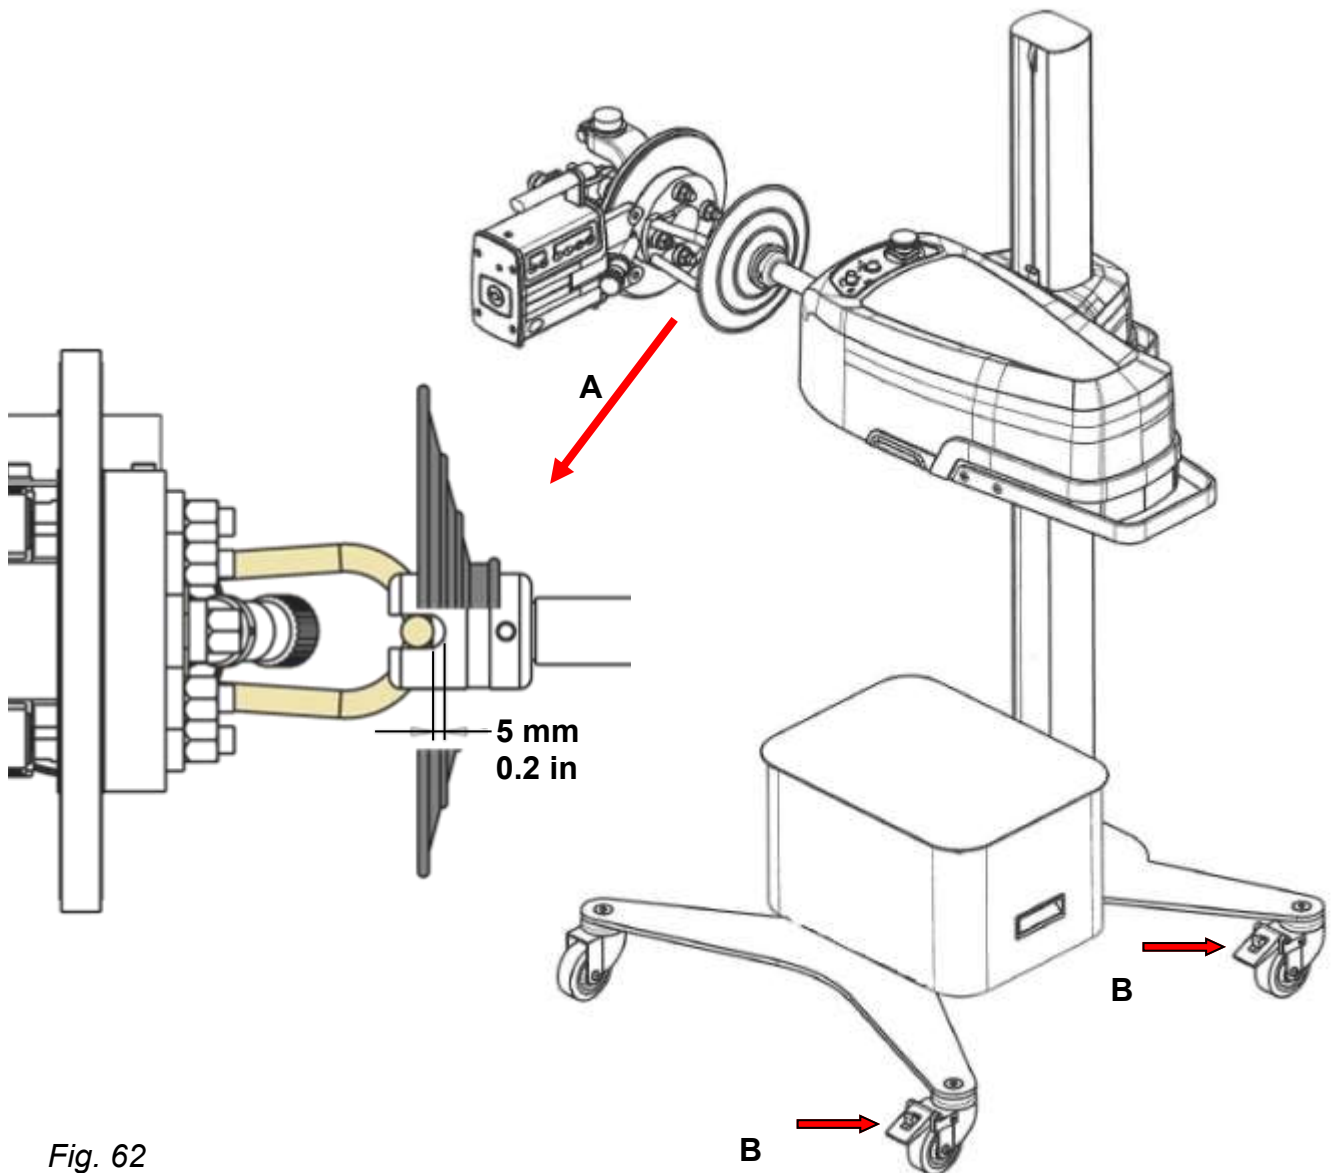

Fig. 62
4. Slide the drive yoke onto the drive adapter, leaving a 5 mm (0.2 inch) space, fig. 62 A. Drive yoke must align with the center of the hub.
5. Lock the caster wheels to lock the stand in place, Fig. 62 B.